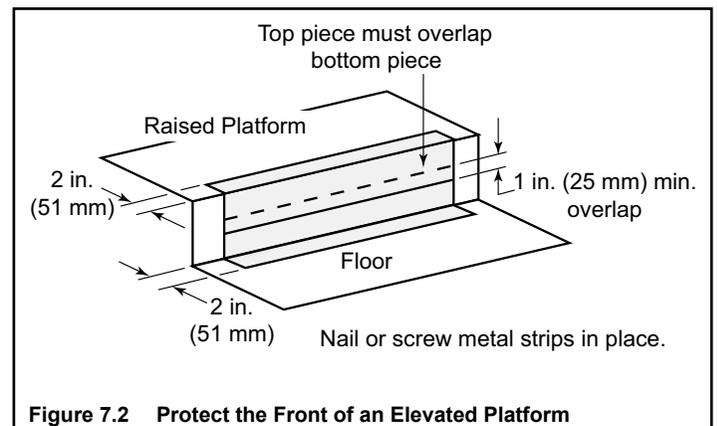

Figure 7.2 Protect the Front of an Elevated Platform
- Protect the front of a platform elevated above the hearth extension with metal strips (not included with fireplace) per Figure 7.2. See Section 10C for hearth extension instructions.